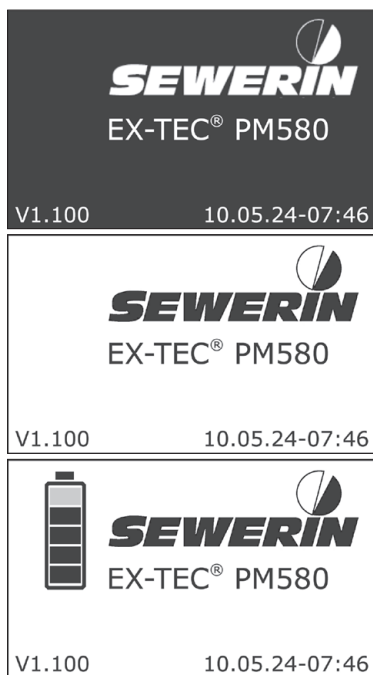

Fig. 9: Sequence of start images during switch-on process
- a) A sequence of start images appears (fig. 9). The signal for the paused measurement is emitted.
The setting is performed in association with the start images (fig. 9).
The settings are made before the start images appear (fig. 9).